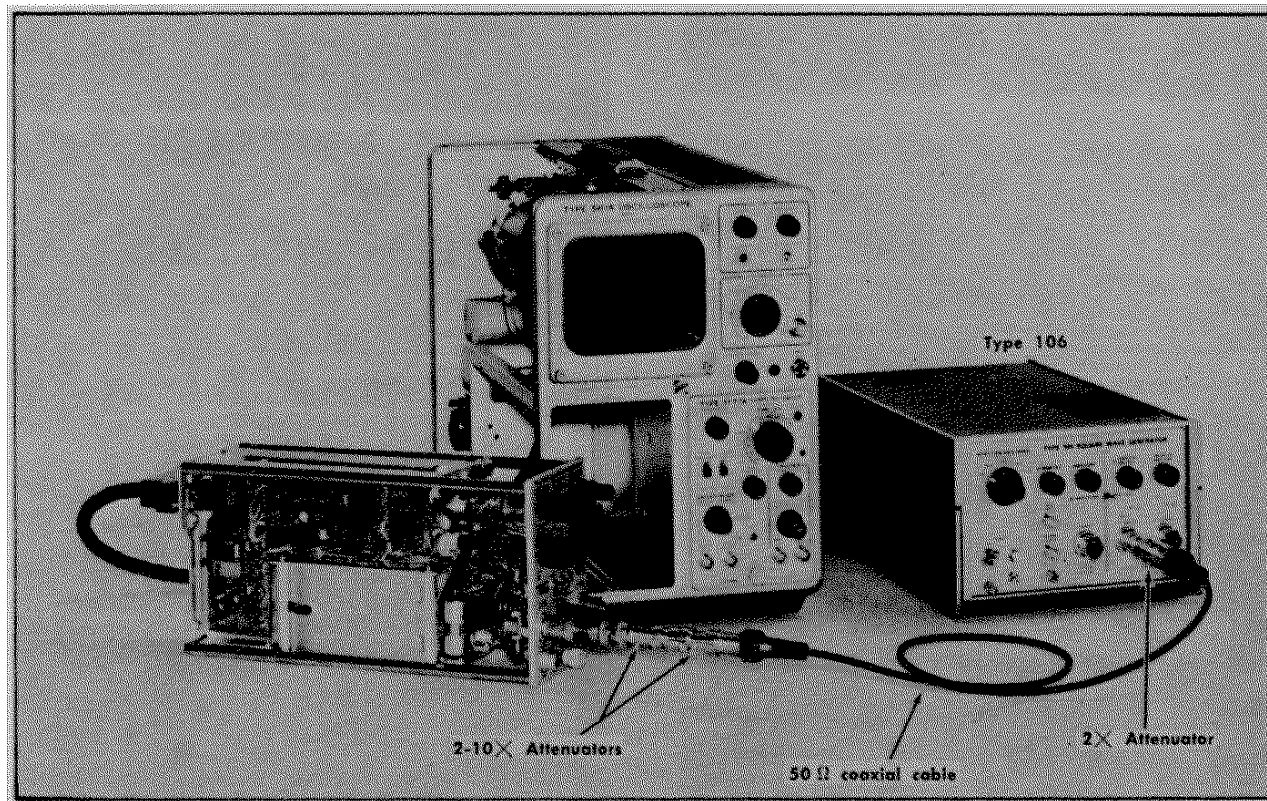

Fig. 8-34. Equipment and connections for Step 28.
a. Make the connections and set the controls as listed under Fig. 8-34. Obtain a display similar to Fig: 8-35A where two traces are obvious. This is really a display of the square wave generator signal amplitude, highly attenuated.